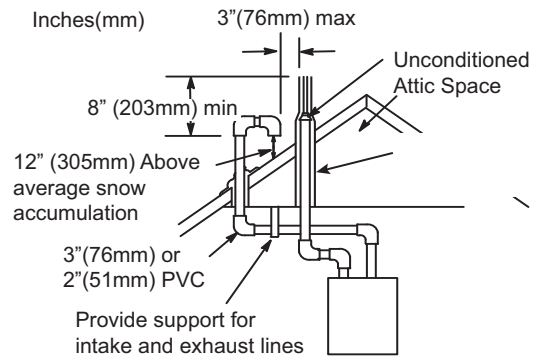

Figure 33. Direct Vent Roof Termination Kit (15F75 or 44J41)
Intake and exhaust pipes may be routed either horizontally through an outside wall or vertically through the roof. In attic or closet installations, vertical termination through the roof is preferred. **Figure 33** through **Figure 40** show typical terminations.
- 3 - On roof terminations, the intake piping should terminate straight down using two 90° elbows (See **Figure 33**).